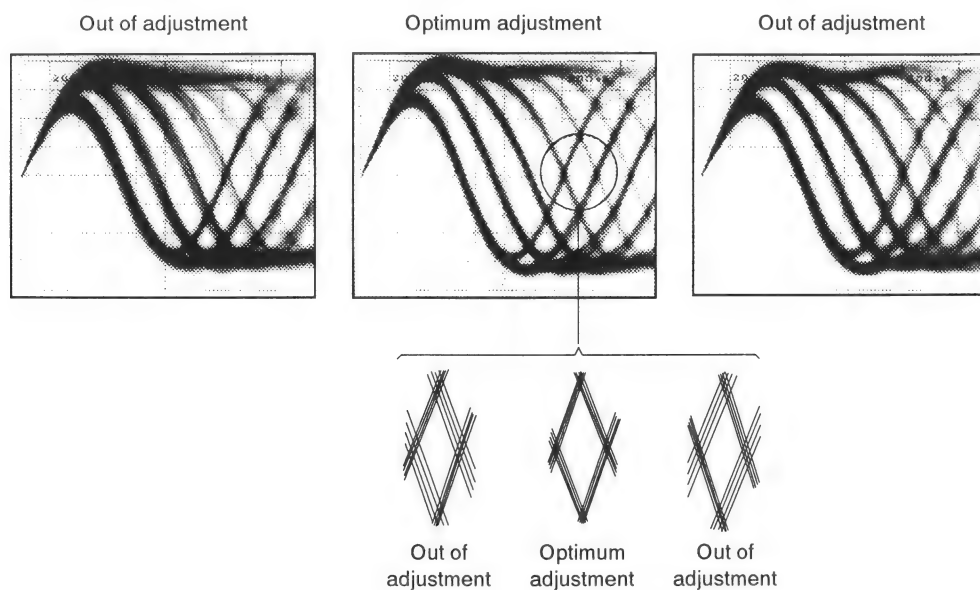

Figure 3 Eye pattern
3. Next, adjust the tangential tilt adjustment screw with the hexagon wrench (GGK1002) so that the eye pattern (the diamond shape at the center of the RF signal) can be seen the most clearly (Figure 3).